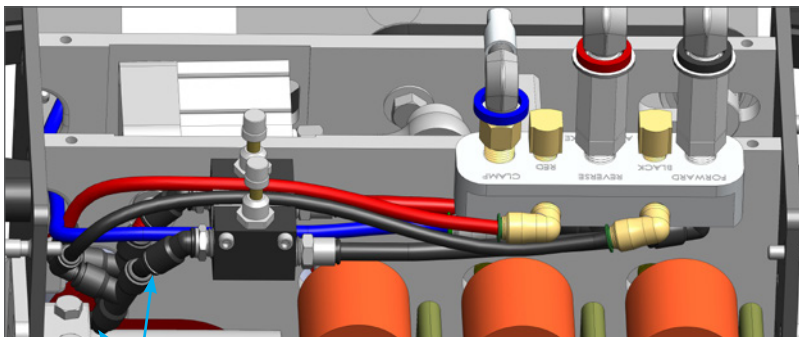

FIGURE 3
2. Connect the red and black tubes with the T-fittings from the manifold to the fittings on the left side of the flow controls. Connect the other end of the T-fittings to the end of the cut tubing. The tubes from the manifold assembly should lie between the flow control knobs. **(FIGURE 3)**